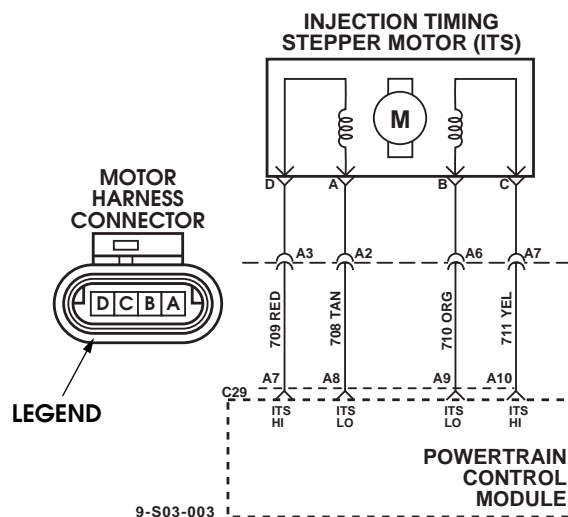

Figure 3-19: Injection Timing Stepper Motor Circuit
5. Check the resistance between terminals A7 and A8 of the brown 24 pin PCM harness connector (C29) for coil 1 low (A8), and coil 1 high (A7) (Figure 3-19).
6. Check the resistance between terminals A9 and A10 of the brown 24 pin PCM harness connector (C29) coil 2 low (A9), and coil 2 high (A10) (Figure 3-19).